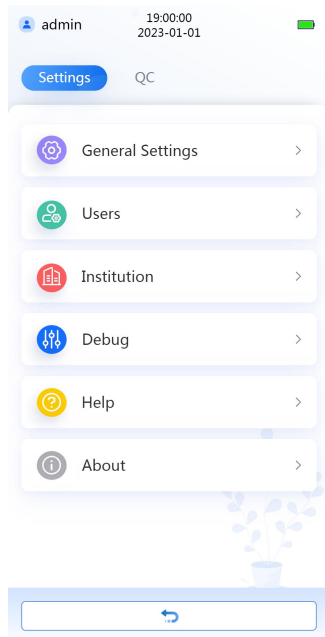

Figure 11 System Function Menu Interface
- Click the Function Setting button , in the System Function Interface to enter the Function Setting Interface (Figure 11 below), and set the barcode, network, language and serial port respectively.